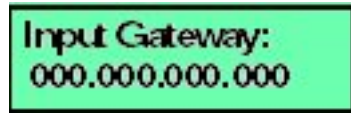

Figure 3.12. LCD Panel (Input Gateway)
5. Use the arrow keys as described in step 2 to input a new subnet mask, then press **ENTER**. The following message displays (Figure 3-12) with an IP address whose first three octets (each three decimal digits) are the same as the IP address entered in step 5, and the last octet is set to decimal 254 (or the default gateway IP address of 0.0.0.0 is displayed).